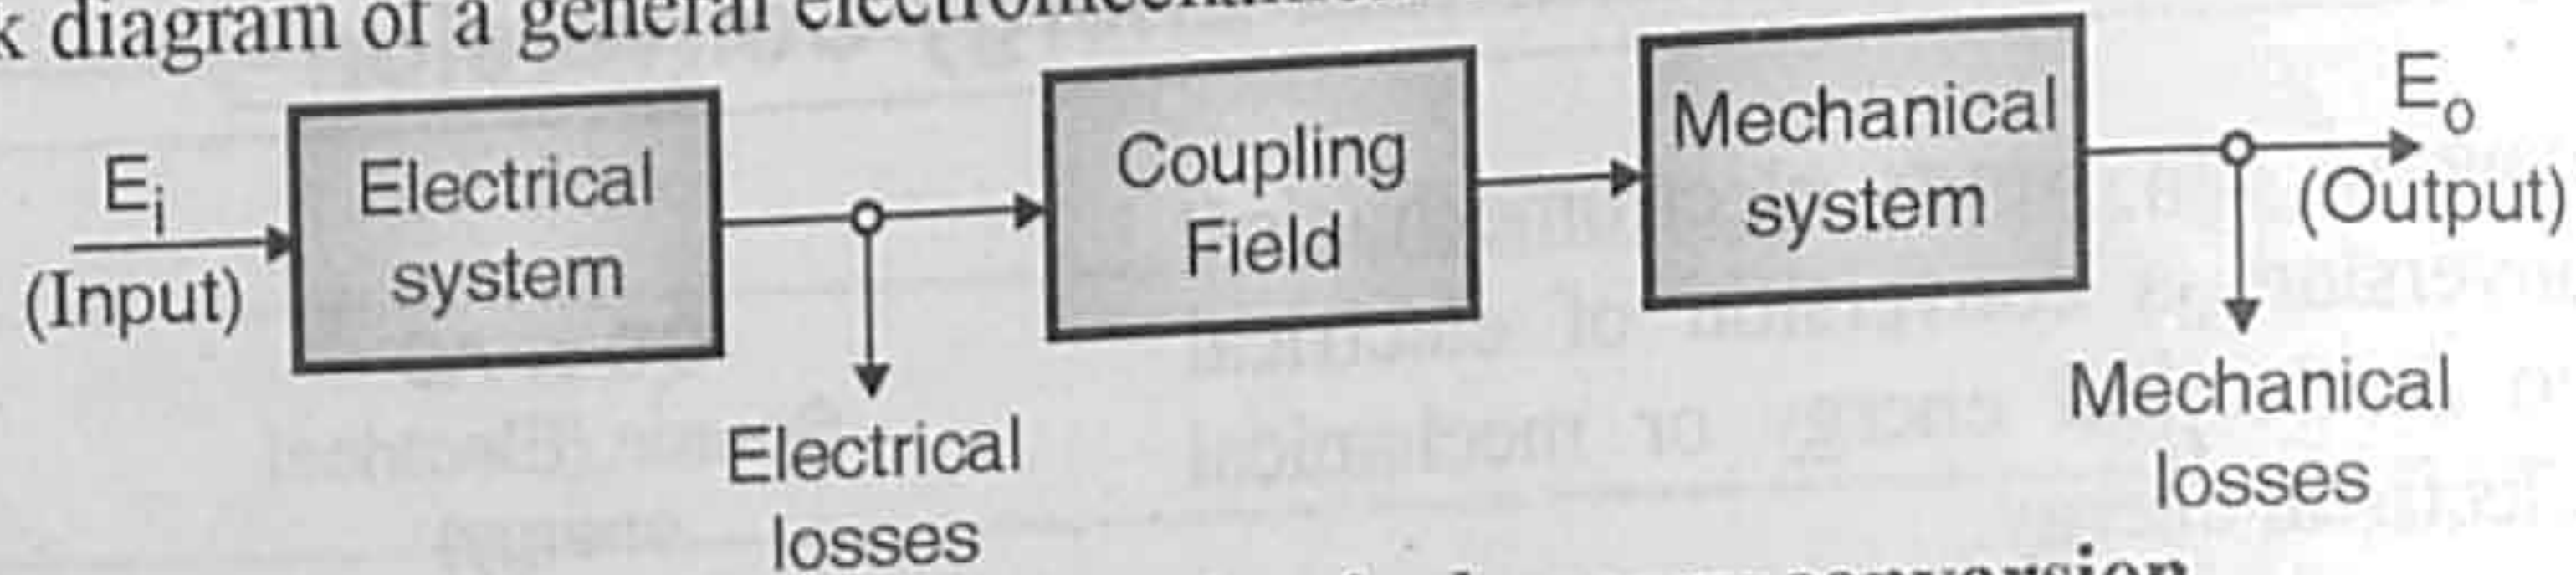

Fig. 10.1.2 : Electromechanical energy conversion
- The block diagram of a general electromechanical conversion system is shown in Fig. 10.1.2.